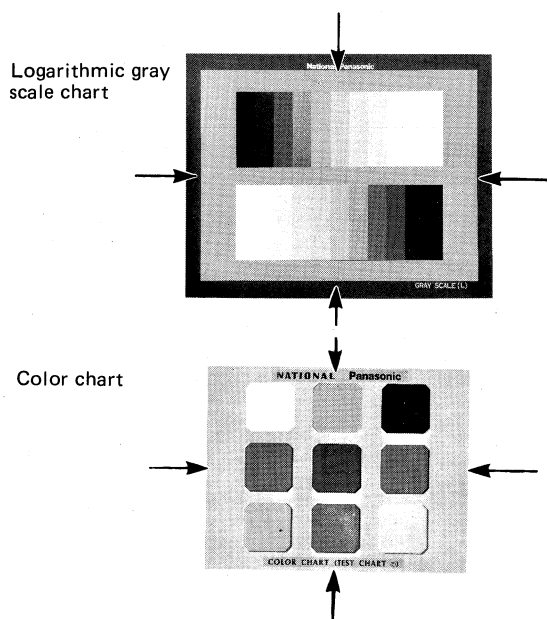

Fig. 4-2-1
2. Aim the camera at the logarithmic gray scale chart or colour chart during the adjustment so that chart fully occupies the raster of the monitor. (Fig. 4-2-1)